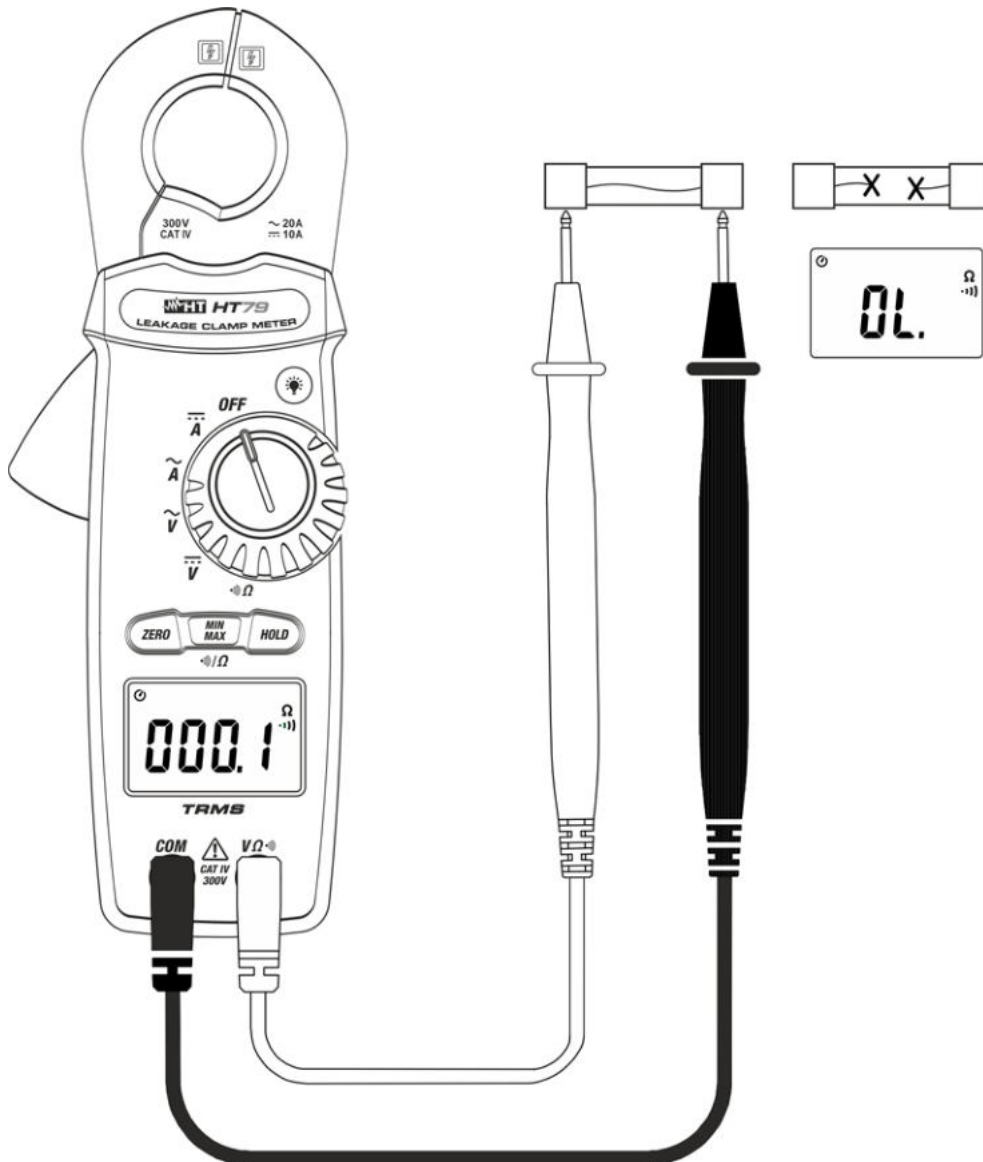

Fig. 7: Use of the instrument for Continuity test
3. Insert the red cable into input terminal **V $\Omega$**  and the black cable into input terminal **COM** and carry out the continuity test on the object to be tested (see Fig. 7). A buzzer sounds when the measured value of resistance is lower than 100. $\Omega$